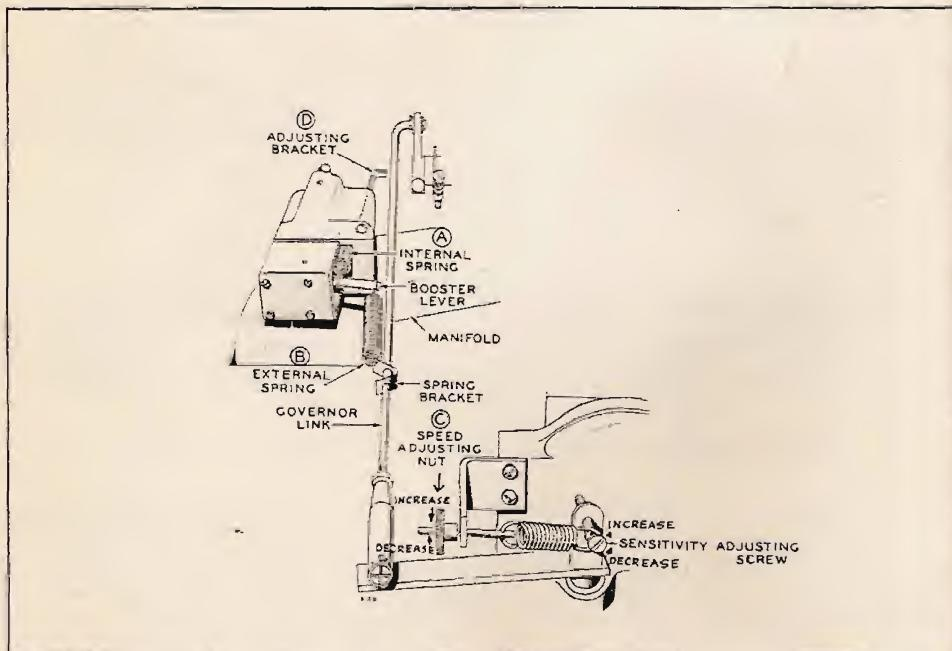

Fig. 20 Governor Booster
The booster is mounted on the intake manifold and is operated by engine vacuum through a small passage in the manifold. See Fig. 20. When the plant is operating at about half load or less, the engine vacuum is sufficient to cause the diaphragm to overcome the tension of the internal booster spring (A). Under these conditions, there is no tension on the booster external spring (B) and the booster does not affect the governor operation.
- With the plant operating at no load, disconnect the booster external spring (B), Fig. 20. Turn the speed adjusting nut (C) to obtain a frequency reading of 60 to 61 cycles for a 60 cycle plant (50 to 51 cycles for a 50 cycle plant). The voltage should be within the limits shown in the table IV, according to the rated plant voltage shown on the plant nameplate.
- Connect a full electrical load to the generator. As the electrical load is connected, the governor should act smoothly and quickly to keep the voltage within the limits in the table. However, there should be not more than a spread of 3 cycles between the no load frequency and the full load frequency. For example, if the frequency was 60 cycles at no load, then the full load frequency should be not less than 57 cycles. If the cycle spread is more than 3 cycles, turn the sensitivity screw, Fig. 20, in (clockwise) a half turn. This will, in turn, necessitate a slight compensating speed nut adjustment. Repeat the process until the cycle spread is within 3 cycles and voltage is within the limits shown in the table.
8. After satisfactory performance has been attained under various loads, the booster can be connected. With the plant operating at no load, connect the booster external spring, Fig. 20. Adjust the bracket on the governor link just to the position where there is no tension on the spring.
9. Now connect a full electrical load to the generator. The frequency should stabilize at a point 1 to 2 cycles HIGHER THAN the no load frequency. For example, if the no load frequency is 60 cycles, the frequency under full load should be 61 to 62 cycles. If the rise in frequency is more than 2 cycles, lessen the internal spring tension. If there is a drop in the frequency, increase the internal spring tension. Adjust the tension of the internal spring by pulling out on the spring bracket (D), and moving the pin to a different hole.
12. The booster requires little maintenance other than using a fine wire to clean the small hole in the short vacuum tube which fits into the hole in the top of the engine intake manifold. Do not enlarge this hole. If there is tension on the external spring Fig. 20, when the plant is operating at no load or light load, it may be due to improper adjustment, restricted hole in the small vacuum tube, or a leak in the booster diaphragm.